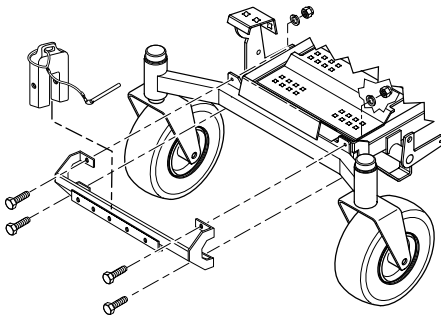

FIGURE 3-8
16. Using the weight support bar as a guide, identify the four corresponding mounting holes, and the existing hardware that will need to be removed in order to secure the weight support bar to the front of the machine as shown. See Figure 3-8, Page 4.
17. Install one 7/16-14 x 1-3/4" hex head bolt into each of the four mounting holes in the weight support bar, and through the matching holes in the caster support weldment. Secure this assembly to the front of the machine using the 7/16- .5" x 1-1/4" x .083" flatwashers, and the 7/16-14 elastic stop nuts. Torque hardware to 59 ft. lbs. See Figure 3-8.